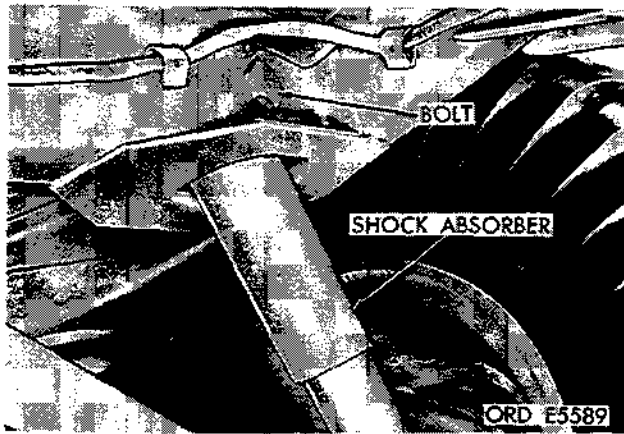

Figure 2-344. Remove rear shock absorber from frame.
(3) Remove locknuts, plug, bushings, washers, and bolts, securing shock absorber to frame and suspension arm (M151, M151A1, M151A1C and M718) (fig. 2-344).